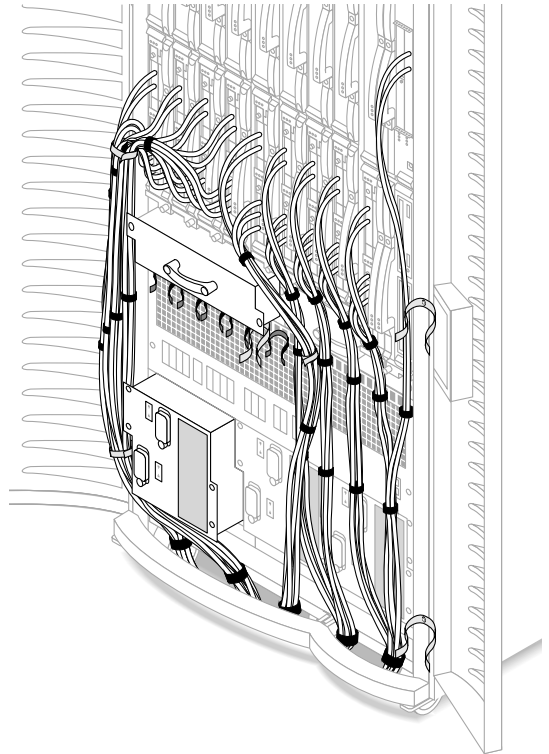

FIGURE 12 Fan Tray and Power Supply Maintenance—Front Left Side
3. To reduce the strain on the upper green cable strap (No. 6), continue to pull the cables upward and secure the bundle with the lower green cable strap (No. 6) on the door (FIGURE 12).